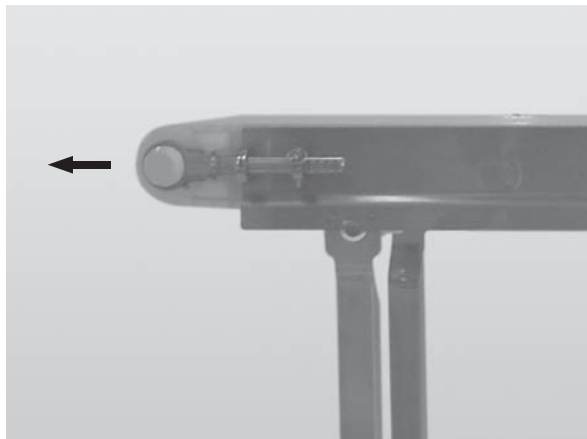

Figure 59
3. Continue extending the tension end until the belt is sufficiently tight (Figure 59).